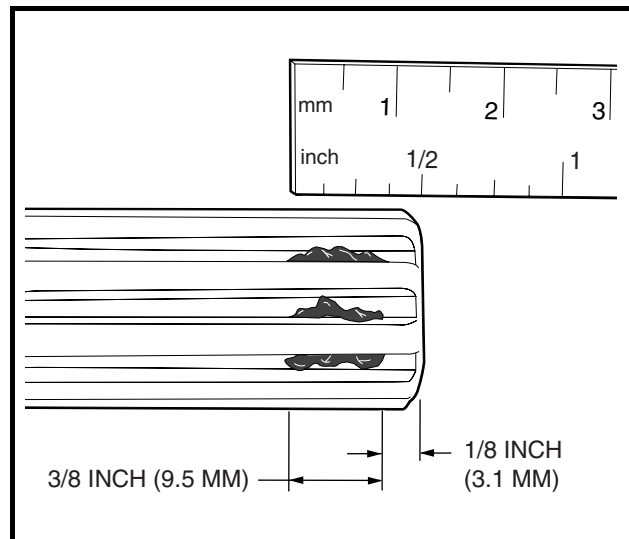

Figure 16-14 Application of grease to Input Shaft Grooves
- 2.3. Apply motor coupling grease evenly to the rotating input shaft starting at approximately 1/8 inch (3.1 mm) from the end of the shaft and working back toward the transaxle (away from the end of the shaft) (**Figure 16-14, Page 16-12**).